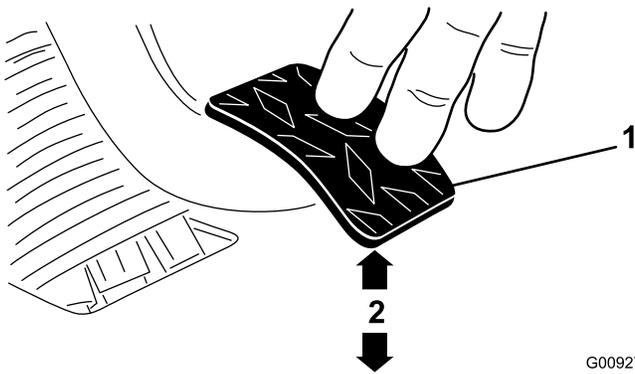

Figure 75
3. Adjust the jam nuts or ball joint until the back, rear edge of the clutch pedal is 3.75 ± 0.12 inch (9.5 ± 0.3 cm) from the top of the floor plate diamond pattern, when an 4 lb (1.8 kg) force is applied to the pedal (Figure 75).